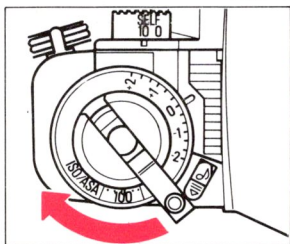

Fig. 19
5. Close the Back Cover, unfold the Film Rewind Crank and turn it gently in the arrow direction until any slack is taken up. (Fig. 19)